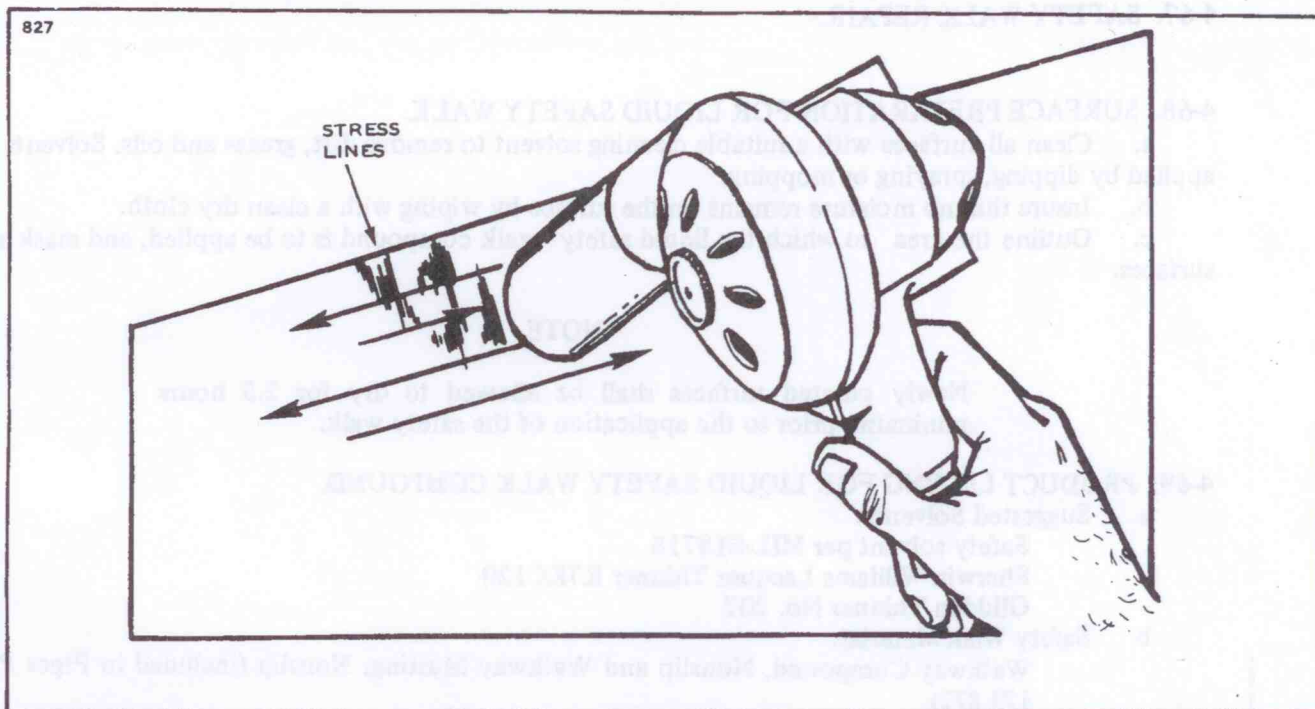

Figure 4-16. Repair of Stress Lines.
f. Stress Lines: (Refer to Figure 4-16.)